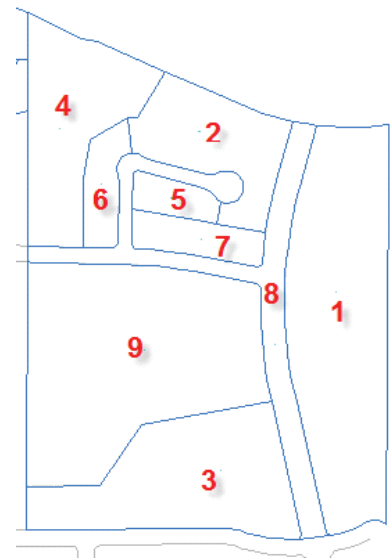

Figure 2-28
9. The project site has nine parcels. Using the quick properties dialog box, select each of the parcel labels and rename the parcels according to Figure 2-28.